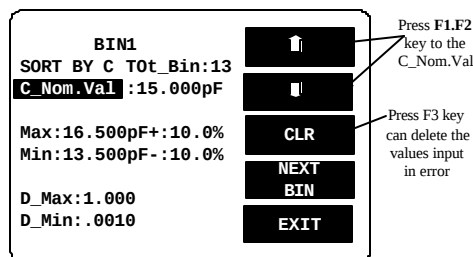

Figure 8-16
- Press  $\Delta$  key. Please refer to Figure 8-16 below.